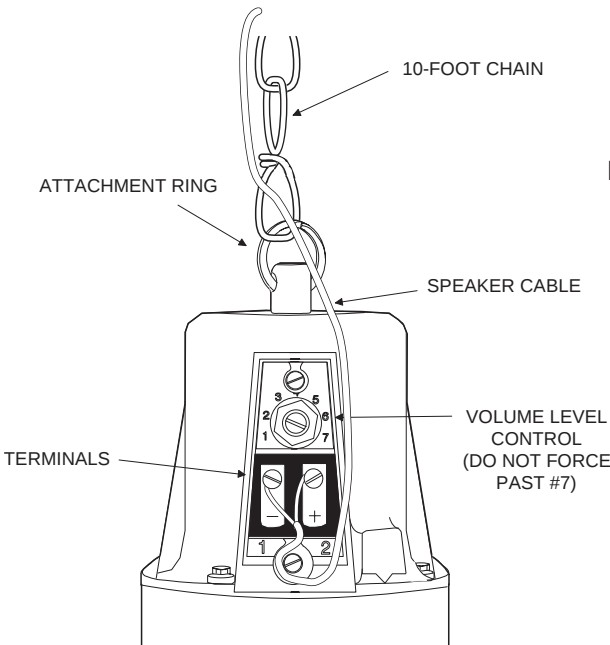

Figure 2
The 70V Suspended Radial Horn Speaker has a post and ring located on the base of the speaker (see Figure 2). The ring is used to attach the speaker post to the supplied 10-foot metal chain. The means of attaching the chain to the ceiling or other overhead structure must be sufficiently secure to withstand a pull test of 30 pounds; if local construction or safety codes specify a greater value, then that value shall govern.
- 2. Make the connections and dress the wire as shown in Figure 2.